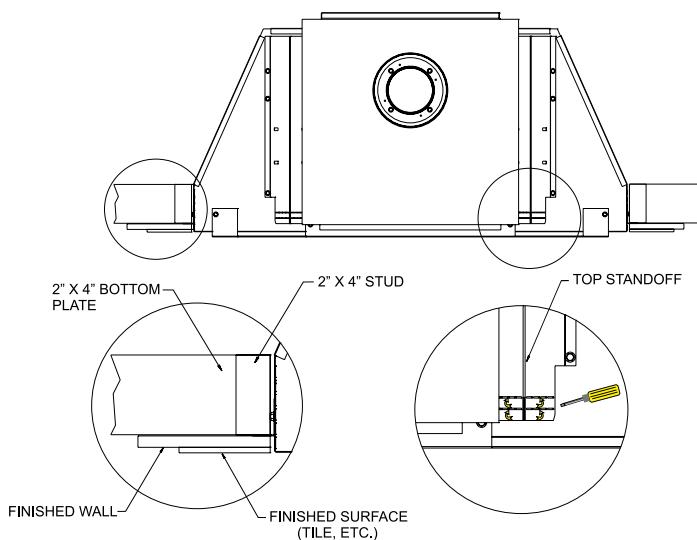

Figure 11
2. Frame in fireplace with a header across the top. It is important to allow for finished face when setting the depth of the frame. **See Figure 11.**